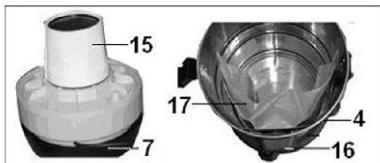

Fig. 4
Unlock the two locks (11) on both sides of the vacuum cleaner and remove the electromotor section (7) by the handle (10). Depending on the type of cleaning, install the appropriate filter. For dry cleaning (without water intake), install a folded paper filter (14) or a polyurethane filter (15) on the filter case (13). Also, during dry cleaning from the tank inside part (4), install a paper filter bag (17) on the slot (15). (Fig.4). Always check that the bag is full (17) and replaces it as it is filled. In case of wet cleaning (water intake) only polyurethane filter (15) is allowed (Fig.4). After installing the appropriate filter by the handle (10), correctly install the electromotor section (7) on the tank (4) and lock by the two locks (11). Make sure that the float safety valve (12) moves freely in the filter case (13) and that the electromotor section (7) is placed on the tank (4) at the bottom of the filter case (13).
Any head piece and hose (5) (Fig.2) must freely pass the intake air and water. Do not allow debris to clog the head piece. Water is absorbed and stored in the tank (4) (Fig. 2). Once the water level in the tank (4) has exceeded the maximum permissible value, the safety valve (12) (Fig. 4) overlaps the intake opening and the intake stops. This can be understood by changing the sound of a working vacuum cleaner. In this case, immediately turn off the vacuum cleaner. Always drain the water from the tank (4) after use (Fig. 2), dry the vacuum cleaner. Always check the safety valve (12) for free movement in the filter case (13) before operating (for the power cord is disconnected from the mains socket) (Fig. 4).
- Do not wait until the complete filling of the paper filter bag (17) (Fig.4), change it by filling. Excessive filling of the bag will reduce the performance of the vacuum cleaner, so monitor the filling of the filter bag (17), taking into account the properties of intake debris;
- Remove and wash the polyurethane filter (15) with clean water (Fig.4), after which it is necessary to dry it;